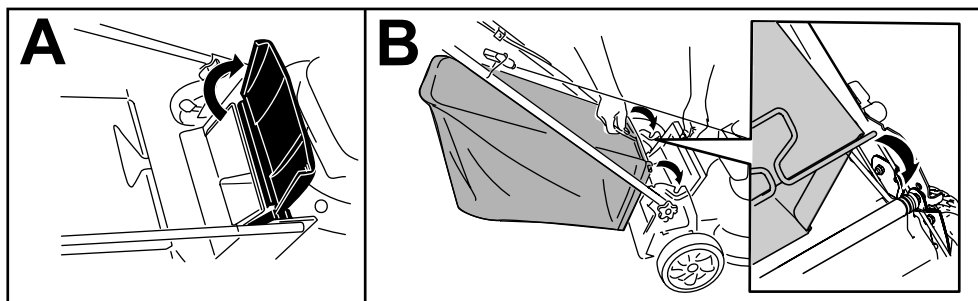

Figure 17
1. Raise and hold up the rear deflector (A of Figure 17).
2. Install the grass bag, ensuring that the pins on the bag rest in the notches on the handle (B of Figure 17).